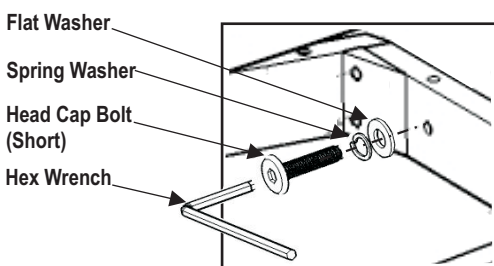
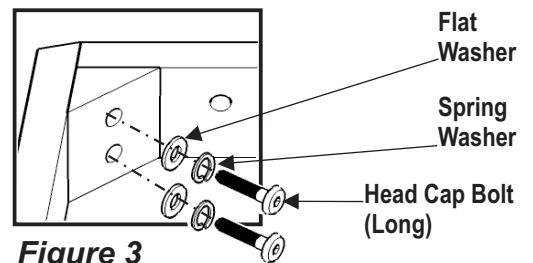

Figure 2
Figure 3
Attach the Back Frame (D) to the unit with Flat Washers, Spring Washers, Head Cap Bolts (Short)(see Figure 2), Head Cap Bolts (Long)(see Figure 3) and Wood Screws.